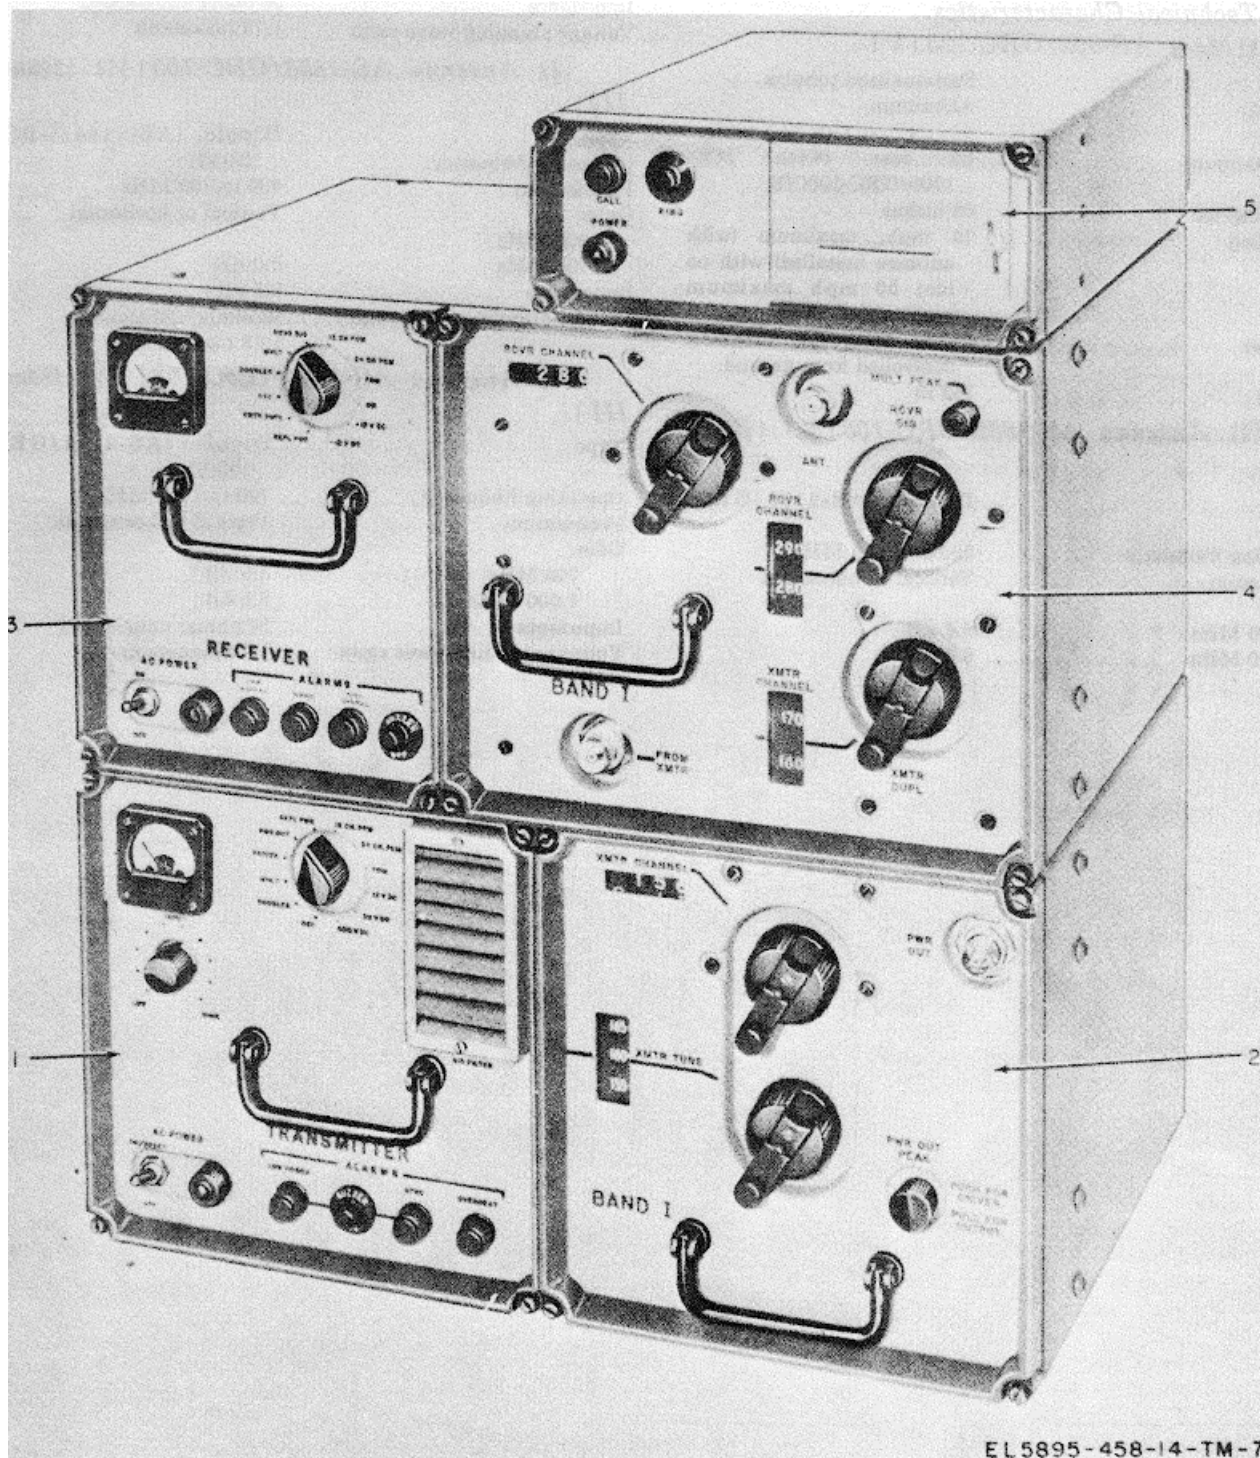

Figure 3-6. Radio Set AN/GRC-103(V)1 less antenna, mast, and minor components.
a. Use . Radio Set AN/GRC-103(V)1 (fig. 3-6) is a transportable radio set that provides facilities for multichannel radio transmissions and reception of pulse-code modulation (pcm) signals. With appropriate plug-in transmitting and receiving units, the radio set operates in the frequency range of 220 to 1,000 MHz in any one of 1,561 (RF) channels selectable in 0.5 MHz increments. The radio set will accommodate up to 24 telephone channels when used with the appropriate pcm multiplex equipment. Configurations of Radio Set AN/GRC-103 (V) are the AN/GRC-103 (V)1 (Band I), the AN/GRC- 103(V)2 (Band II), and AN/GRC-103(V)3 (Band III). Operating with its own antenna system Radio Set AN/GRC-103 (V)(\*) provides good performance over line-of-sight paths in excess of 50 miles (80.45 kilometers) and has sufficient reserve power to give satisfactory operation over obstructed paths. An order wire circuit, which includes facilities that connect all stations of a system on a party line basis, is provided for the use of operating and maintenance personnel.
(1) Transmitter, Radio T-983 (P)/ GRC- 103( V) with Amplifier-Frequency Multiplier AM-4320/GRC-103 (V).
- KEY to fig. 3-6: